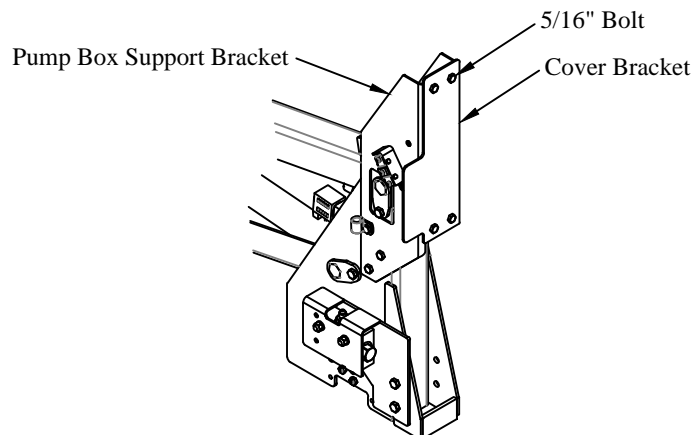

Figure 6: Cover Bracket.
17. Install cover bracket on the pump box support brackets with provided 5/16" bolts, lock washers and nuts (Figure 6).